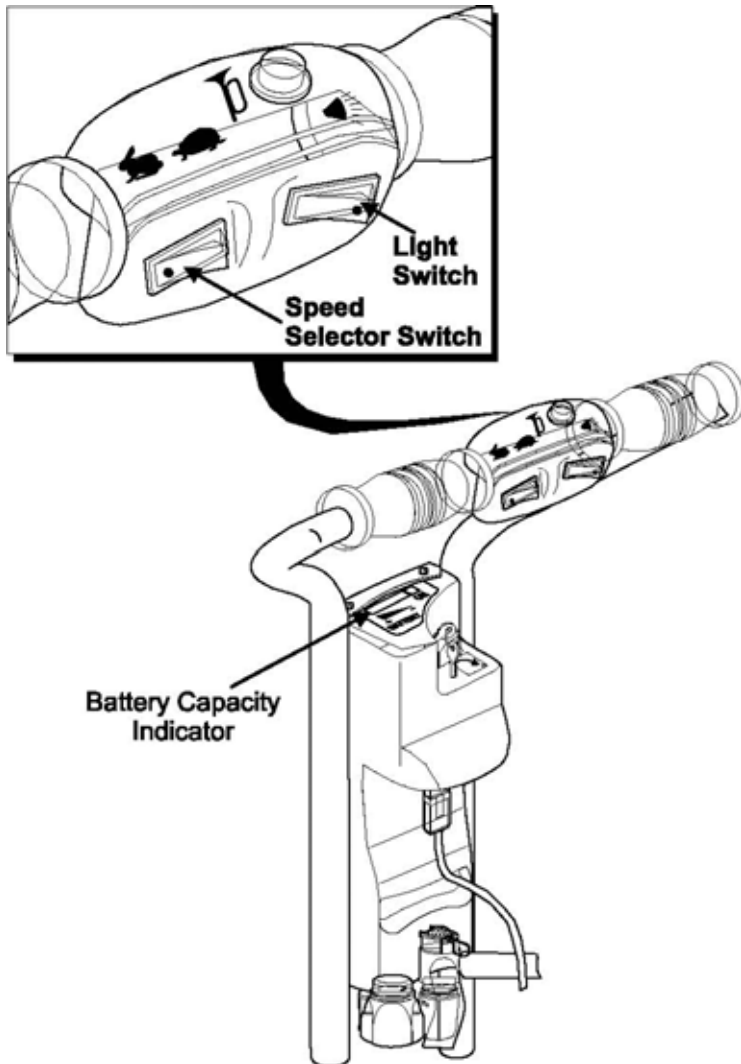

Figure 11.
- .a. In the **High** speed mode (marked by the “hare” symbol next to the **Speed Selector** switch) the maximum attainable speed is 7.5 km/h (4.6 mph) When selector is in **High Speed Mode** – Green light of switch is ON. (**See Fig. 11**).
- Green light of switch is OFF. (**See Fig. 11**).